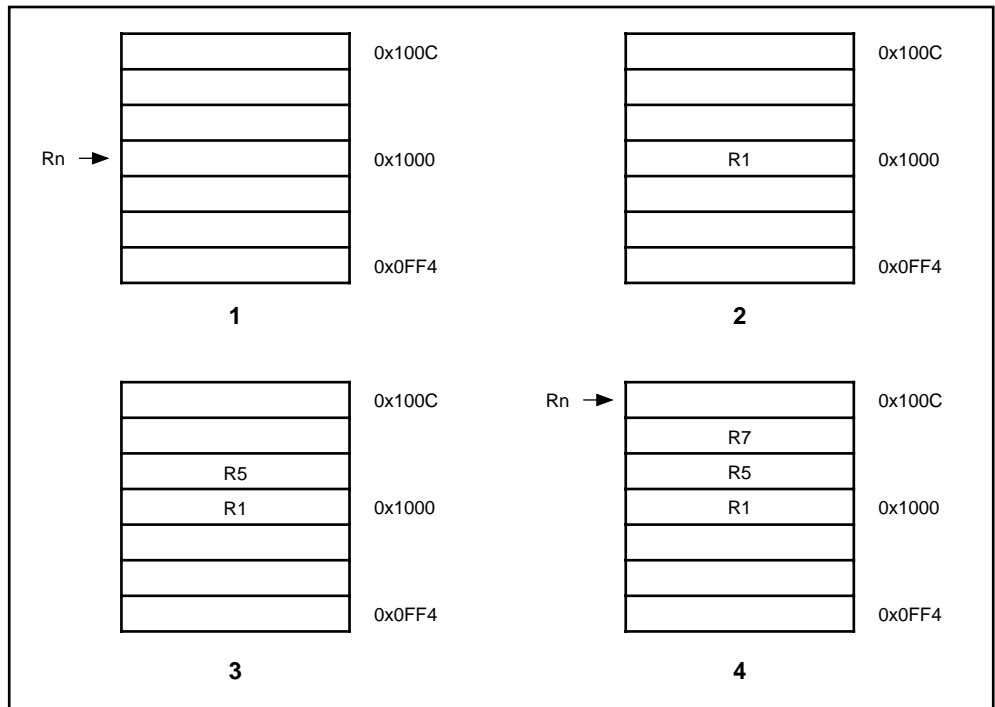
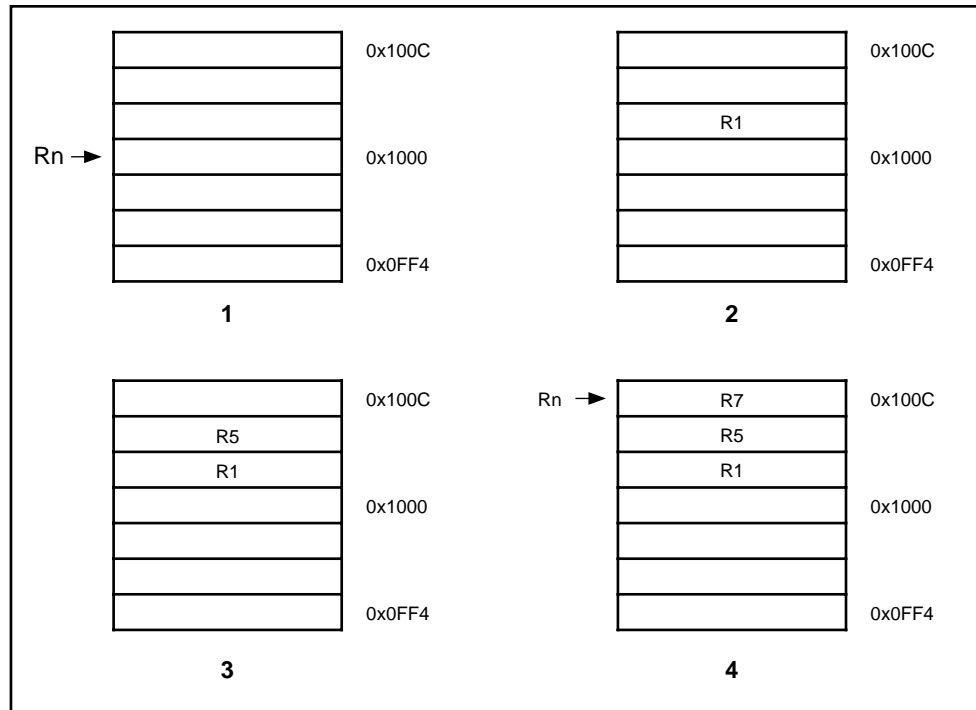
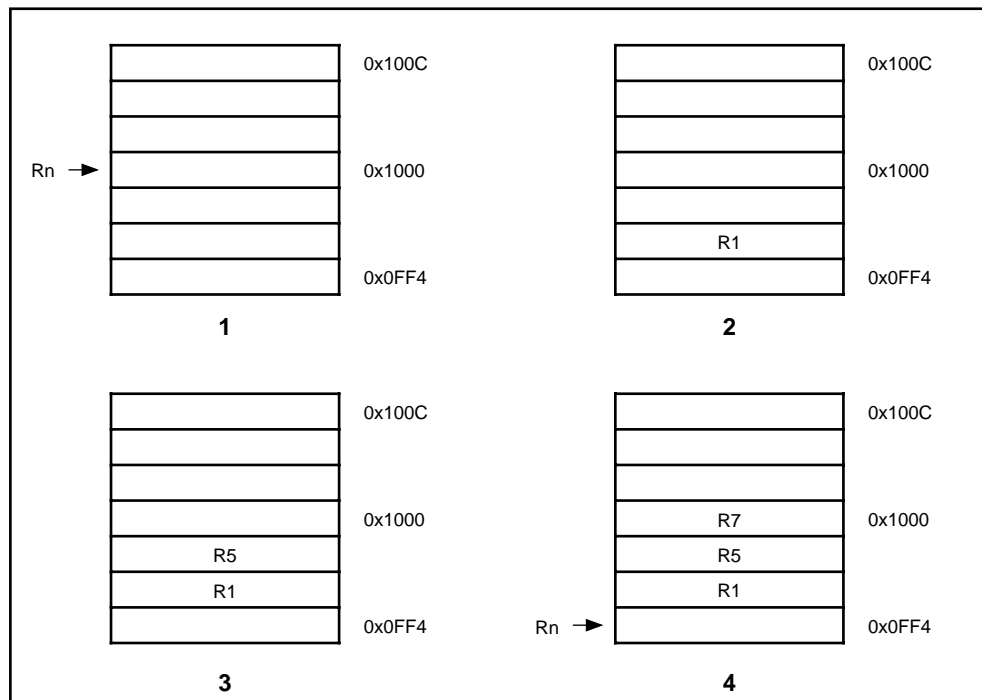
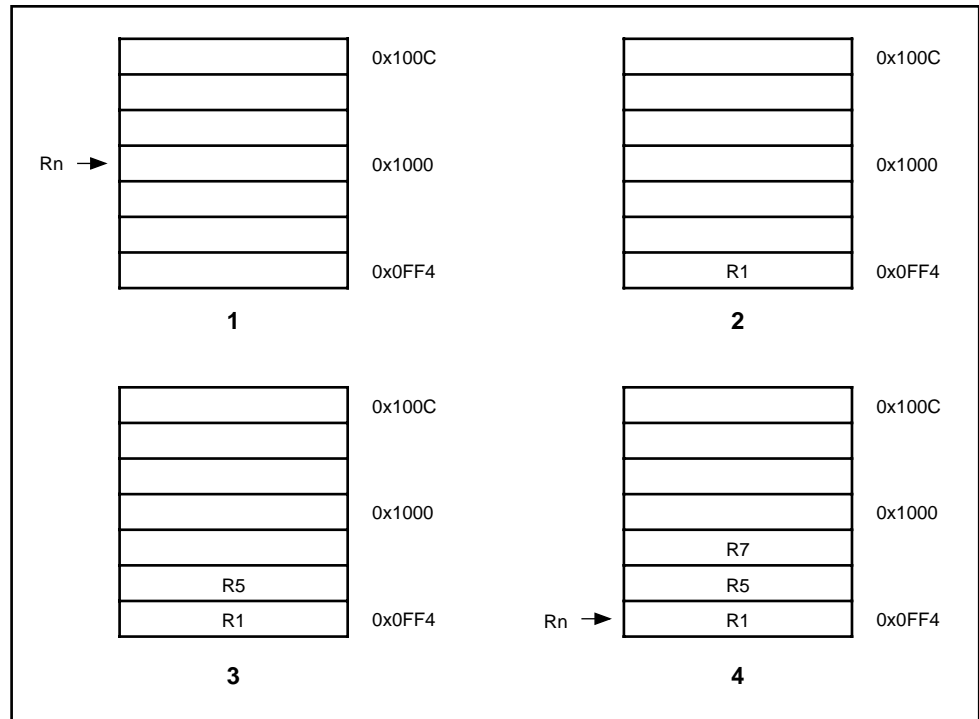

Figure 4-17: *Post-increment addressing*
Figure 4-18: Pre-increment addressing
Figure 4-19: Post-decrement addressing
Figure 4-20: Pre-decrement addressing
The transfer addresses are determined by the contents of the base register (Rn), the pre/post bit (P) and the up/down bit (U). The registers are transferred in the order lowest to highest, so R15 (if in the list) will always be transferred last. The lowest register also gets transferred to/from the lowest memory address. By way of illustration, consider the transfer of R1, R5 and R7 in the case where Rn=0x1000 and write back of the modified base is required (W=1). ◻Figure 4-17: *Post-increment addressing*, ◻Figure 4-18: *Pre-increment addressing*, ◻Figure 4-19: *Post-decrement addressing* and ◻Figure 4-20: *Pre-decrement addressing* show the sequence of register transfers, the addresses used, and the value of Rn after the instruction has completed.